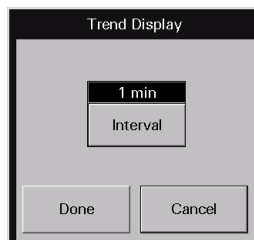

FIGURE 7-7 Trend Display Dialog Box
1. From the **Display** tab, select the **Trend Display** sidebar button. The Trend Display dialog box (shown in FIGURE 7-7) is displayed.